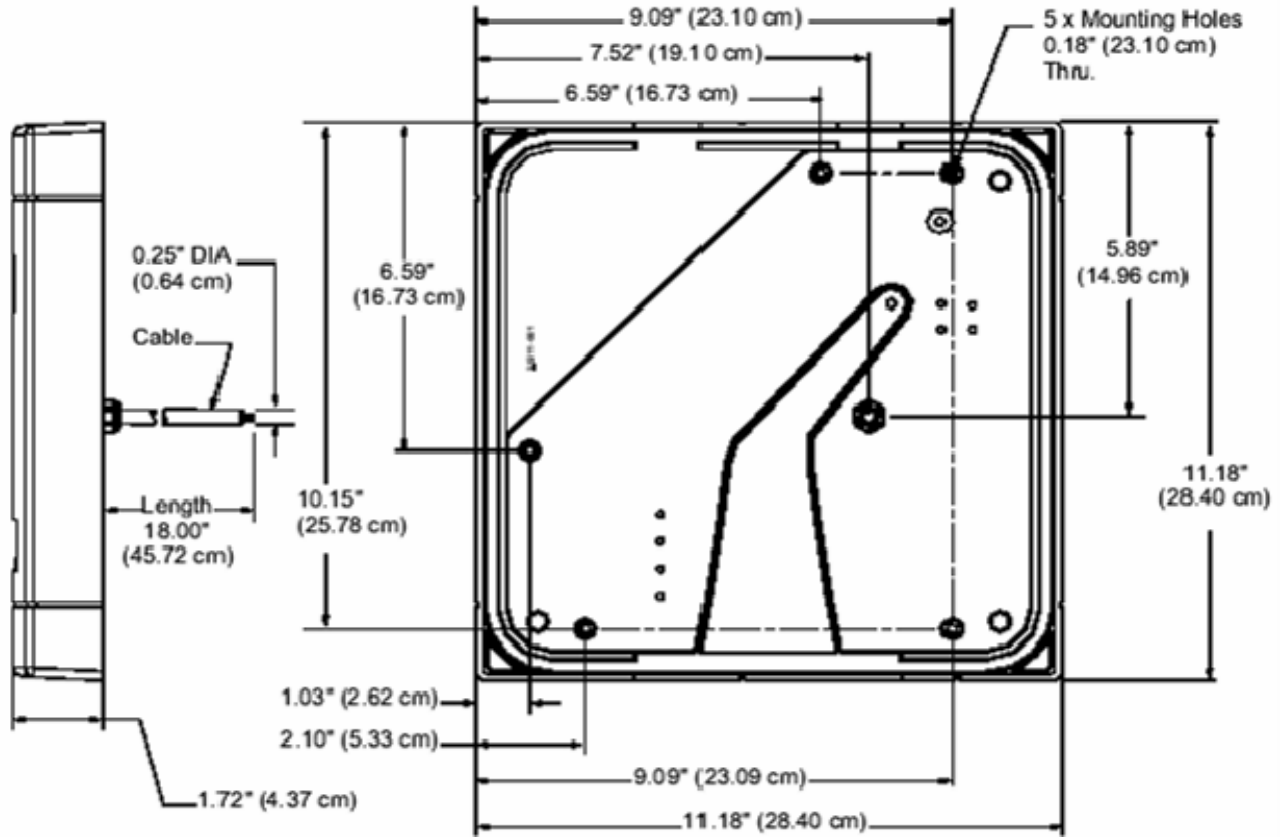

Figure 3 Dimensions
5. Route the reader cable to the controller. (For dimensions, cable and hole locations see Figure 3 Dimensions)